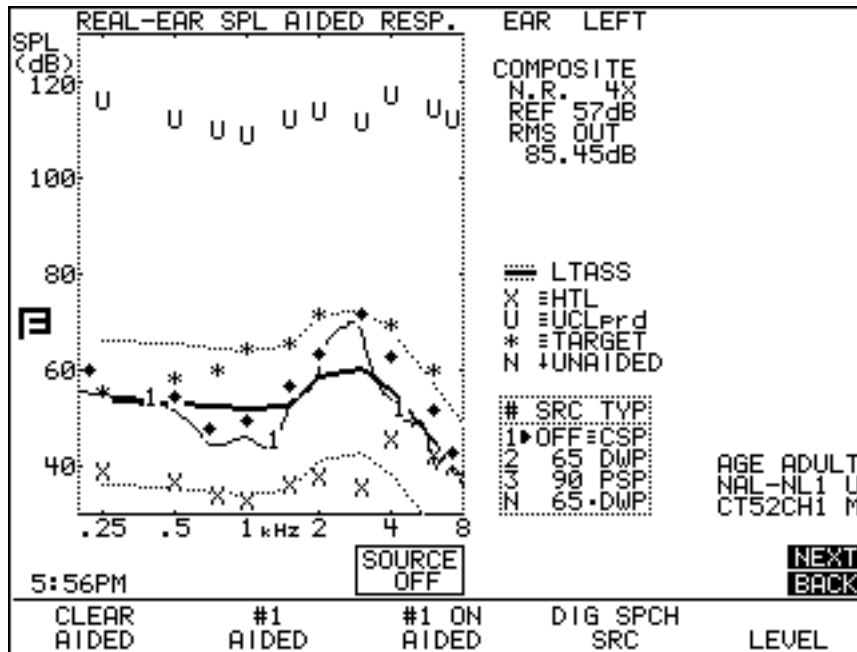

Figure 5.6.1—Visible Speech Testing
- Examine the measurement graph. The screen will display the hearing aid's response to the live voice or pre-recorded signal and how it relates to the displayed speech banana. If you chose the BARS setting in step 8, you will also see a succession of bars on the screen, indicating the maximum peaks of the speech. If you chose the AVERAGE setting, you will see a second curve composed of small diamonds indicating the long term average response over the time of the test. See Figure 5.6.1.